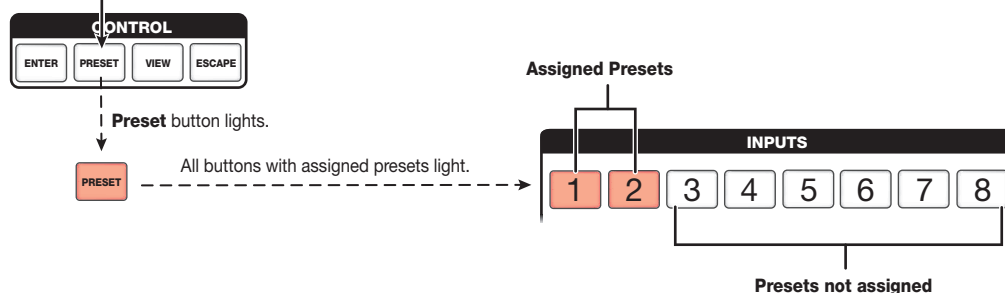
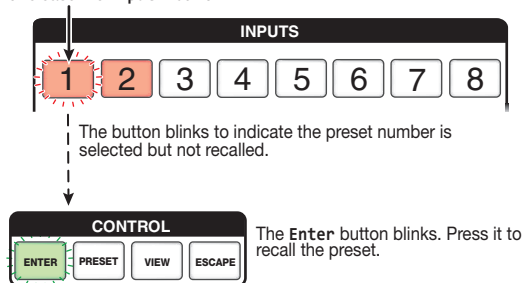

Figure 59. Entering Recall Preset Mode
Figure 60. Selecting the Preset
2. Press and release the **Preset** button (the example in figure 59 and figure 60 shows an audio preset).